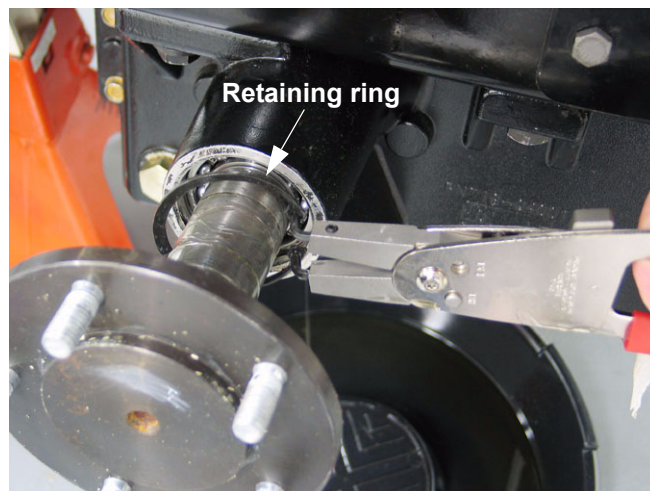

Figure 1.10
- 1.10. The seal covers a retaining ring that secures the axle bearing. Remove the retaining ring. See Figure 1.10.